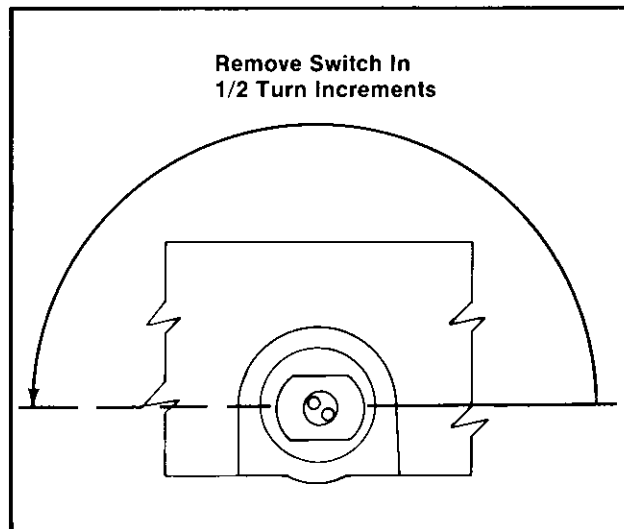

Figure 8-26. Float Switch Removal.
5. Turn the switch counterclockwise in 1/2 TURN INCREMENTS using a smooth, continuous action. Pause briefly between increments and keep the flat surface of float switch in a horizontal position (parallel with base of oil pan). Refer to Figure 8-26.